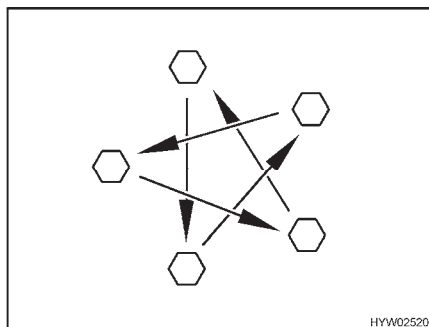

Fig. 140 Tighten the wheel nuts or wheel bolts cross-wise
- Check regularly that the wheel nuts or wheel bolts are firmly seated. Re-tighten the wheel nuts or wheel bolts of a changed wheel cross-wise (Fig. 140) after 50 km (30 miles).